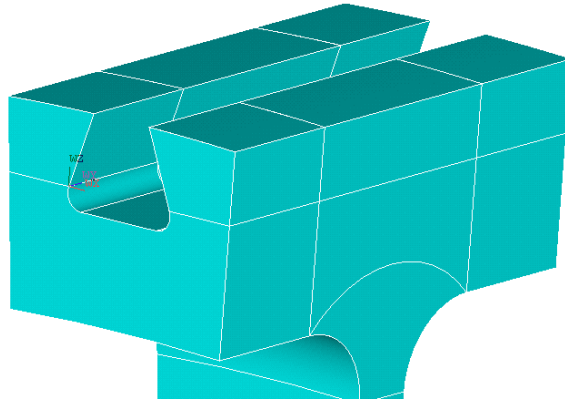

Fig. 6.13. Final splitting of disk rim into separate volumes
- 6) Cut rim with the horizontal working plane. Combine the WorkPlane with the points KP82, KP83, KP68, then similarly to par. 4 cut three rim volumes by specifying them in the Boolean operation menu. Результат на Fig. 6.13;